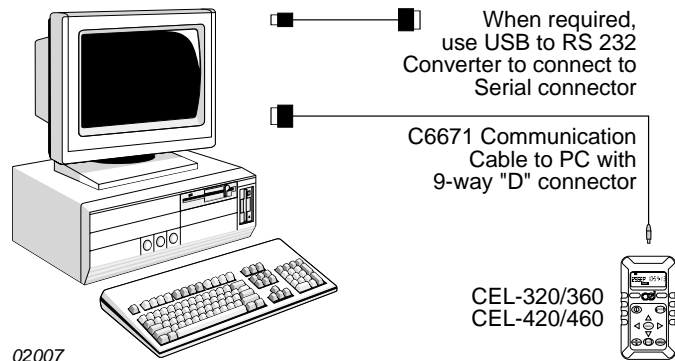

Figure 1: Connection between dosimeter and PC
1. With the dosimeter switched OFF, connect it to the PC serial port using the C6671 Communication Cable as shown in Figure 1.